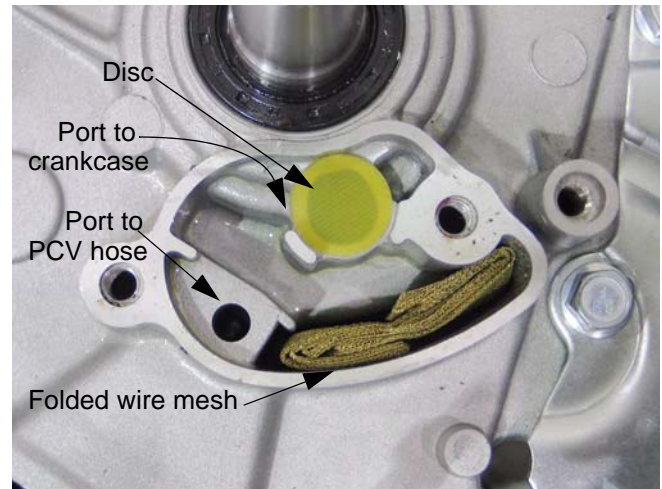

Figure 5.11
5. Inspect the folded wire mesh in the chamber. See Figure 5.11.